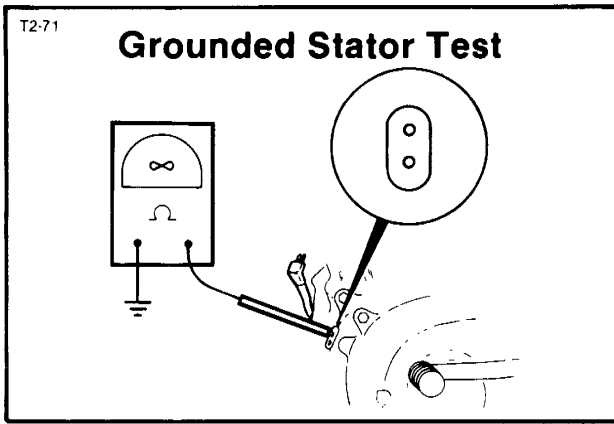

Figure 8-10. Testing For Grounded Stator
2. See Figure 8-10. Set ohmmeter on the RX1 scale. Test for continuity between each stator socket and ground. There must be no continuity (infinite ohms). Any other reading indicates stator is grounded and must be replaced.